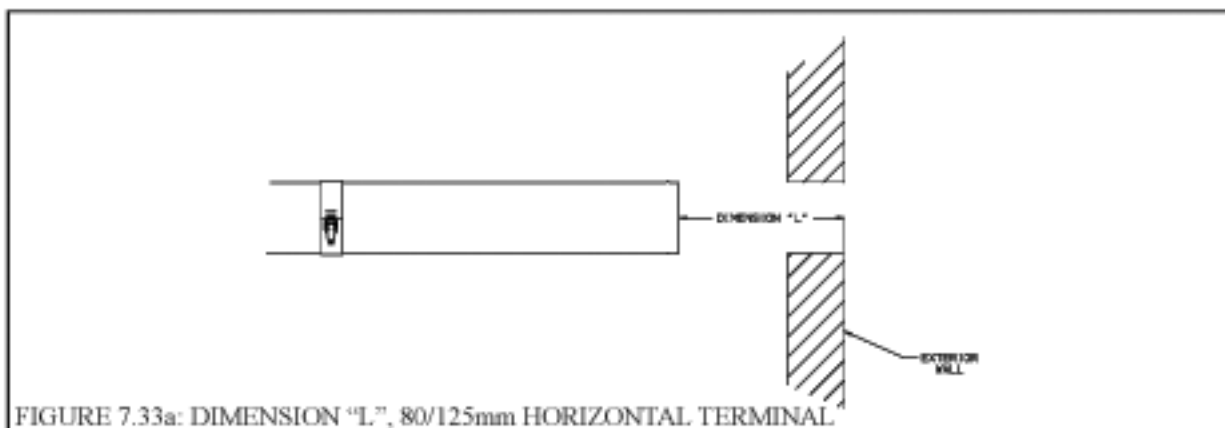

FIGURE 7.33a: DIMENSION "L", 80/125mm HORIZONTAL TERMINAL
- b) Measure distance "L" from the outside surface of the exterior wall to the end of the last fitting as shown in Figure 7.33a.